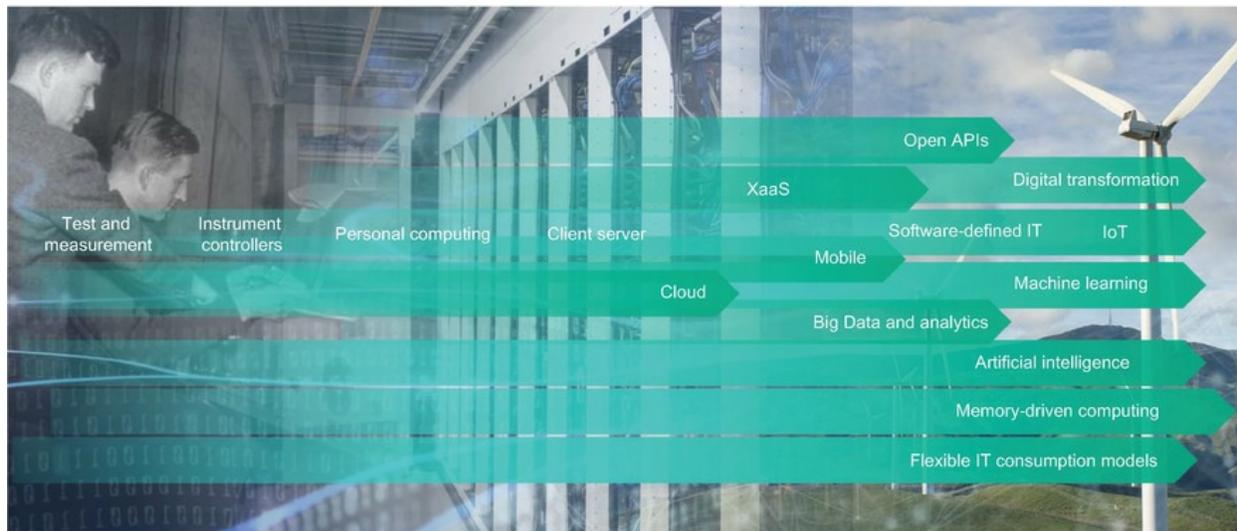

Figure 1-8 Powering the world's apps and data for over 75 years
HPE is a company built on the idea of innovation. From the beginning, we have always been about helping customers get more value out of their apps and data. Our mission has always been to help our customers use technology to improve the way we live and work. We have done that through innovation, expertise, and most importantly through a trusted partnership with our customers. For over seven decades, as illustrated in Figure 1-8, we have helped our customers through every major technology transition, including the shift from mainframe to industry-standard servers, the virtualization revolution, and now to cloud and tomorrow, to the edge, and artificial intelligence (AI).